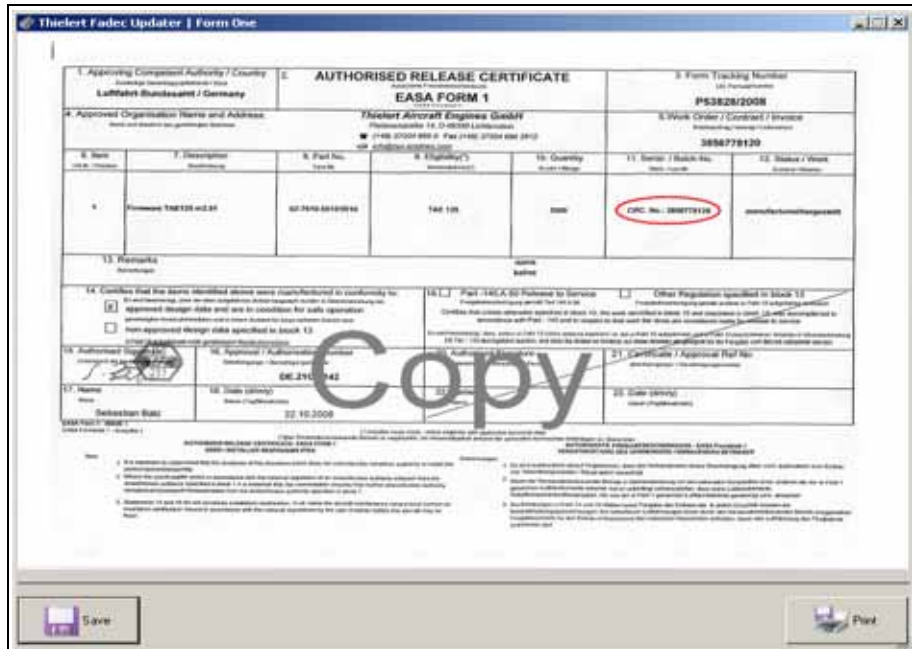
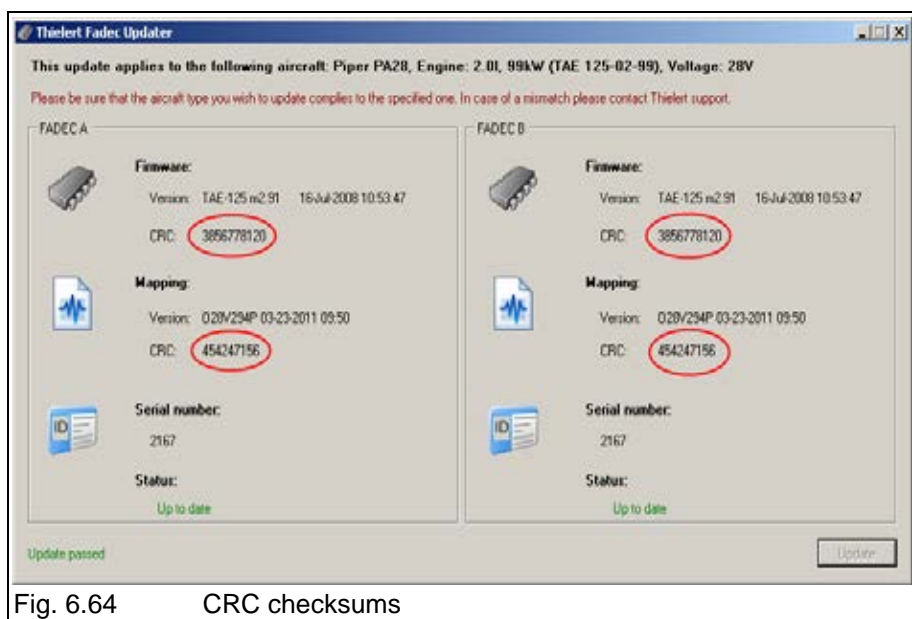

Fig. 6.63 Form One
Fig. 6.64 CRC checksums
10. You will be presented the EASA Form 1. Please compare the CRC checksum on the EASA Form 1 (see Fig. 6.63) with the checksum on the information screen (see Fig. 6.64).
16. Compare the CRC checksums with those found on the Form 1(s) (see Fig. 6.63 and Fig. 6.64).